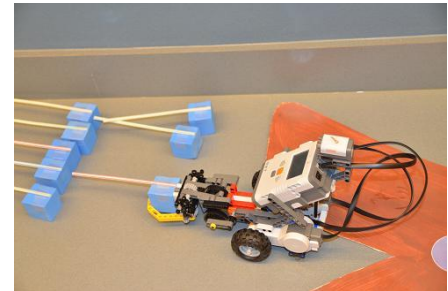
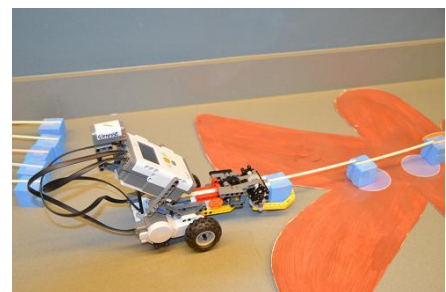

Figure 3
Figure 4
4. Grasps another craft stick/straw with the robot held in the gripper by staff,(Figure 3) and drives it to the end of the last craft stick and releases it (Figure 4).